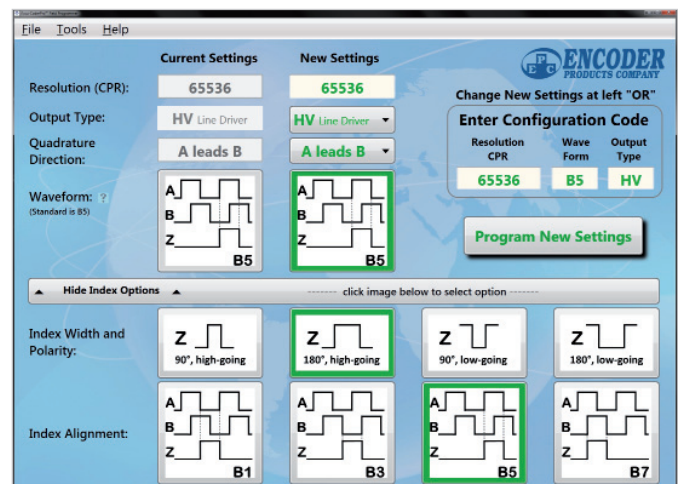

Figure 5
8. Change **New Settings** fields to desired configuration (see Figure 5).
9. Click **Program New Settings** to program the encoder (see Figure 5).